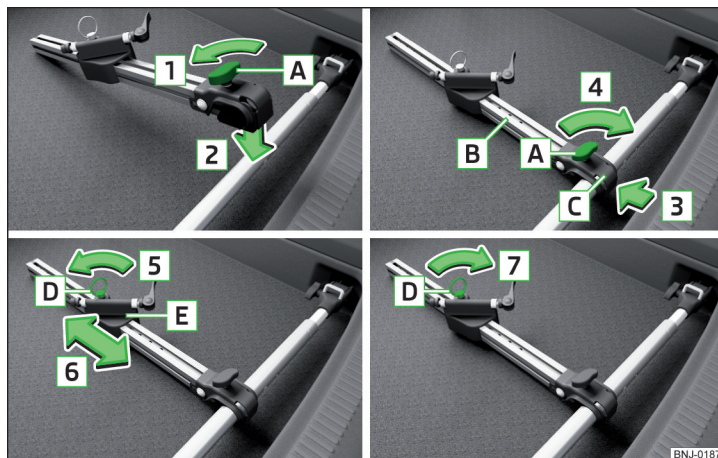

Fig. 112 Fitting the bike rack
- Loosen screw **A** on the bicycle rack (hereinafter only referred to as "carrier") in direction of arrow **1** » Fig. 112.
- If you want to transport two bicycles, loosen screw **A** » Fig. 112 on page 92 on the carrier and move the carrier along with attached bike to the left.
- Tighten screw **A** » Fig. 112 on page 92 on the support.
- If necessary, the position of the sliding part **E** » Fig. 112 on page 92 can be adjusted.